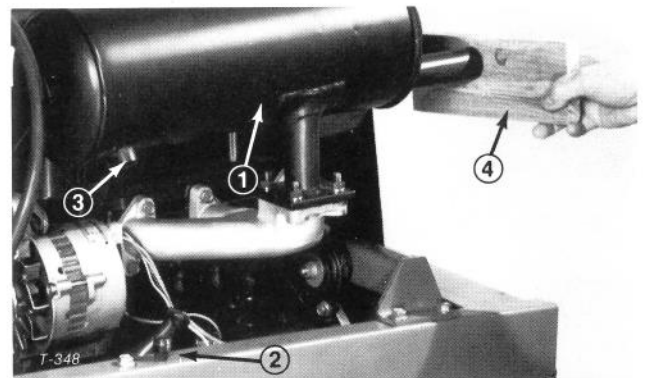

Figure 53
- Remove pipe plug from clean-out port at lower side of muffler (Fig. 53).
- Start engine. Plug the normal muffler exit with block of wood or metal plate so exhaust flow will be forced out of the clean-out port (Fig. 53). Continue to block exit until carbon deposits cease coming out port.